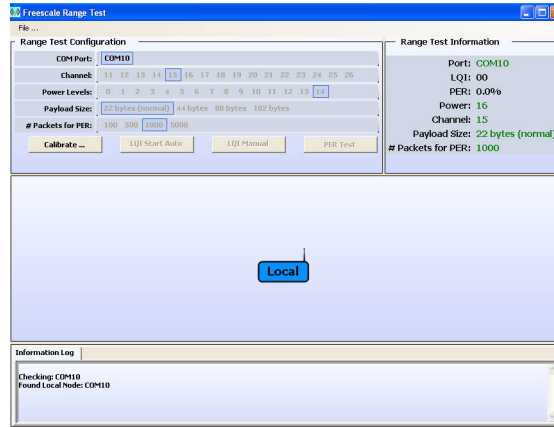

Figure 7-3. Range Demonstration Main Window
3. Start the Range Demonstration application from Windows by clicking on Start -> Programs -> Freescale BeeKit -> Range Demo -> Range Test GUI. The Range Demonstration main window appears as shown in Figure 7-3.
The Range Demonstration application automatically detects the COM port to which the Local Node is connected. The port is displayed in the “Range Test Information” display area located in the top right corner of the Range Demonstration main window and the Local Node icon appears in the main display area as shown in Figure 7-3.